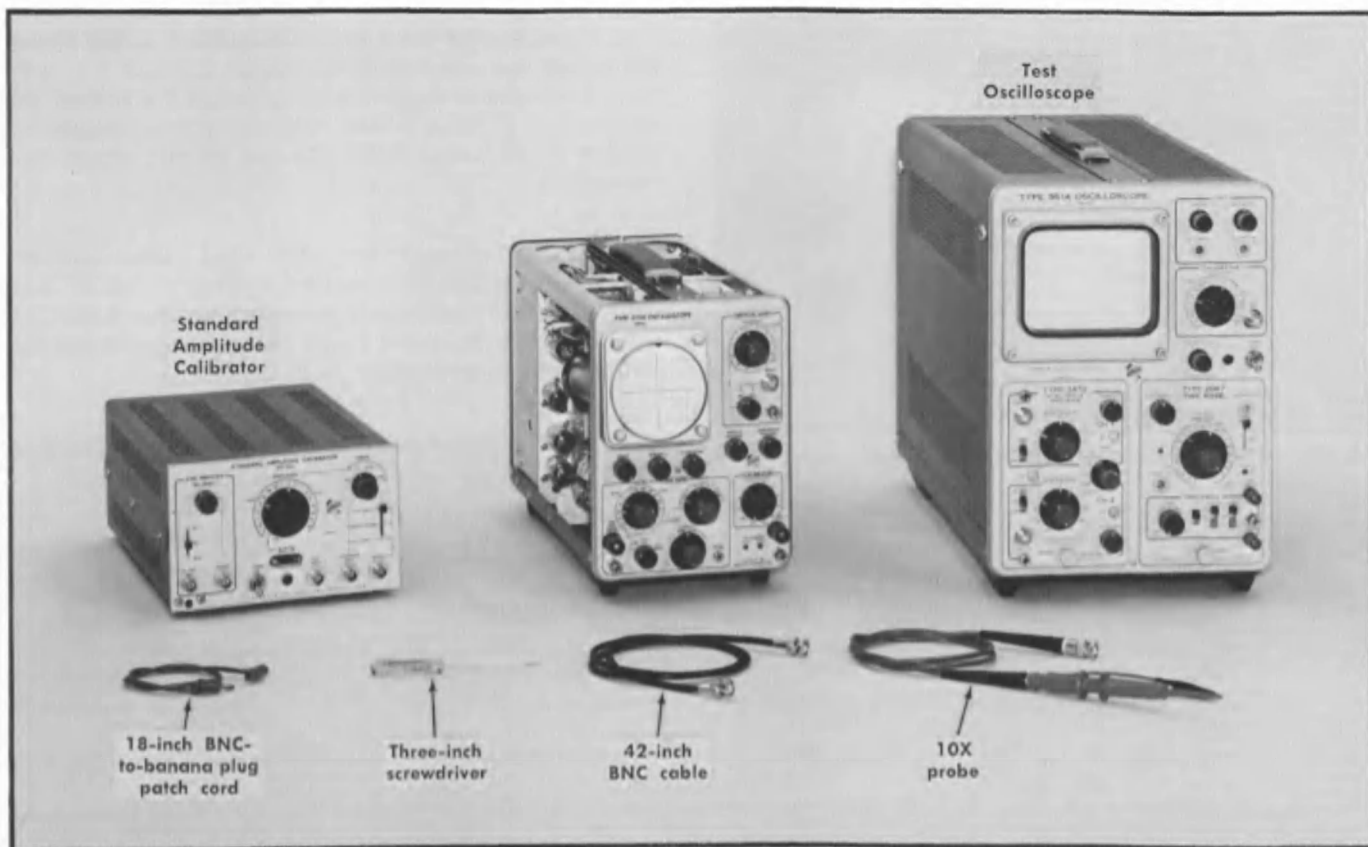

Fig. 5-7. Equipment required for steps 10 through 16.
a. Equipment required for steps 10 through 16 is shown in Fig. 5-7.